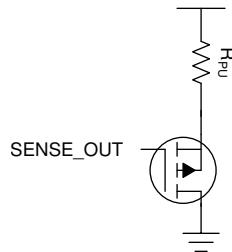

图 8-10. Additional Components for the SO and PG Pins to be Pulled Up to Another Rail
Because the sense out (SO) and power-good (PG) pins are pulled up internally to the output rail, they cannot be pulled up to any voltage or wire AND'd like a typical open-drain PG output can be. If these signals must be pulled up to another logic level then an external circuit can be implemented using a PMOS transistor and a pullup resistor. Implementing the circuit shown in 图 8-10 allows the outputs to be pulled up to any logic rail. This implementation also allows the outputs to be AND'd together like the traditional power-good pins.